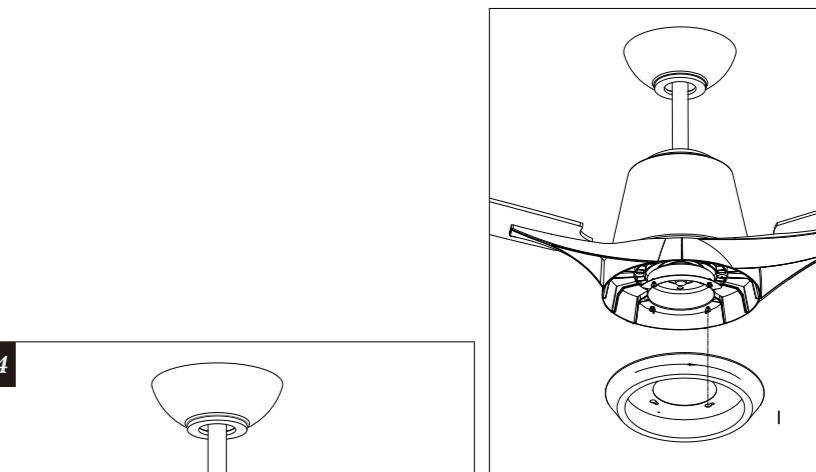

Fig.13
- Loosen 4 screws from the connecting plate before installing the light kit. (Fig.13)